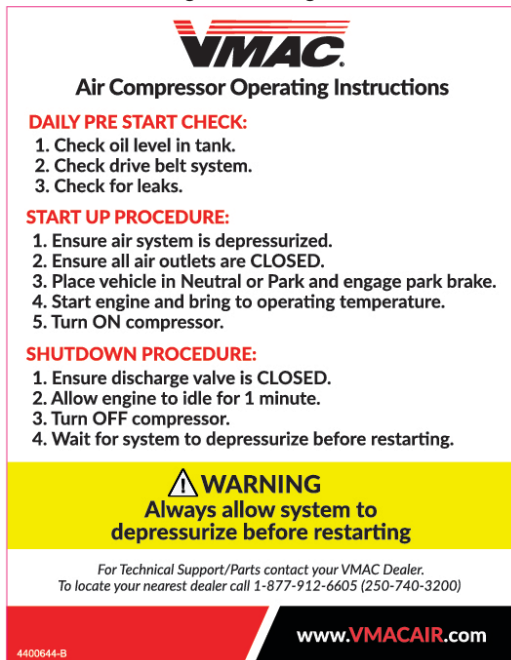

Figure 45 — Operating Instruction decal
- As part of the installation process, ensure that the safety and operational instruction decal is affixed in an obvious location so that it can be seen by vehicle operators. A good spot for this is usually on the inside of the door or on the panel underneath the steering wheel (Figure 45).